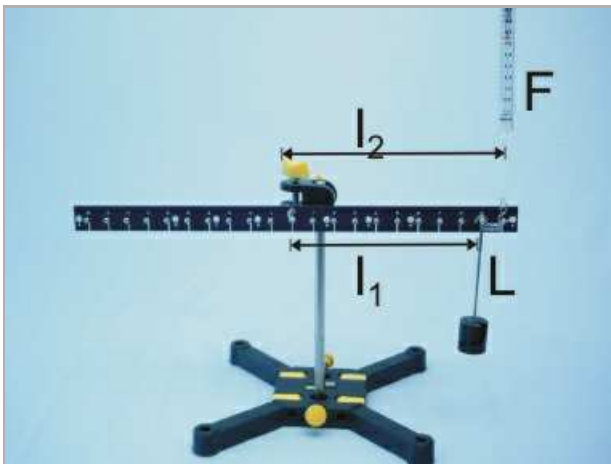

Fig. 6
- Move the lever with the spring balance which is at the 10 mark on the right side into a horizontal position by pulling upwards (Fig. 6).
From the distance between the marks used (2 cm each), calculate the length of the load arm l_1 and the force arm l_2 in cm (see Fig. 6 on the procedure page) and add these values to the table.